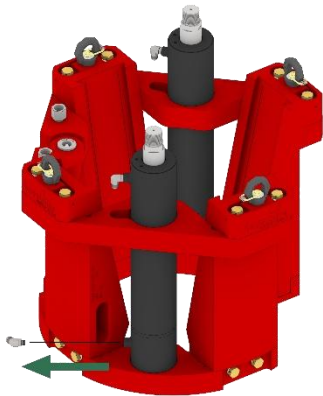

Fig. 28
**Step 2:** Remove the upper and lower hydraulic fitting from the cylinder housing. See Figure 28.